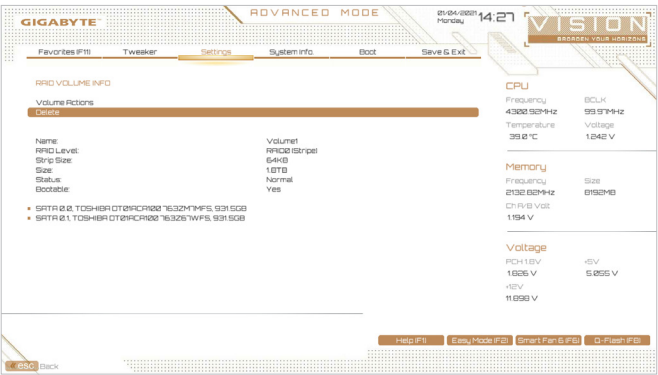

Figure 6
After completing, you'll be brought back to the **Intel(R) Rapid Storage Technology** screen. Under **RAID Volumes** you can see the new RAID volume. To see more detailed information, press <Enter> on the volume to check for information on RAID level, stripe block size, array name, and array capacity, etc. (Figure 6)